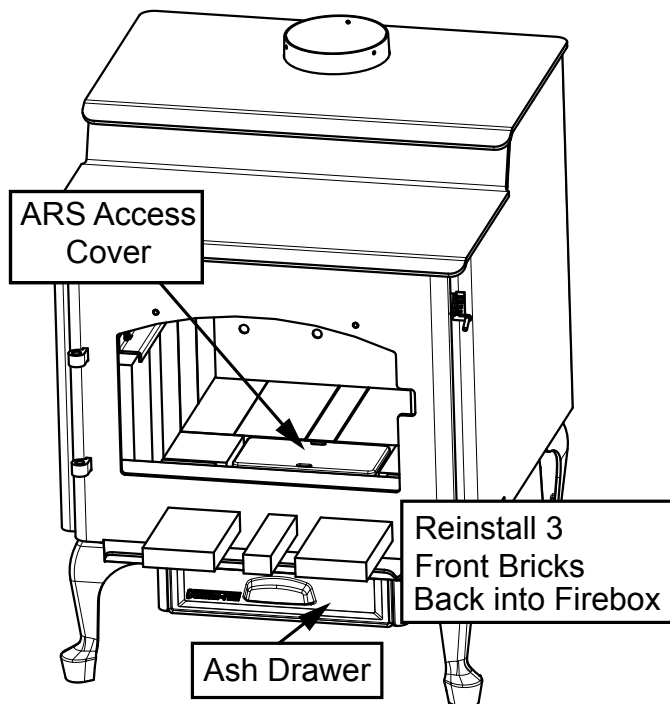

Figure 19.3
8. Replace front 3 bricks that were removed (Figure 19.3).
10. Install ARS access cover inside of ARS Channel that is located inside the firebox (Figure 19.3).